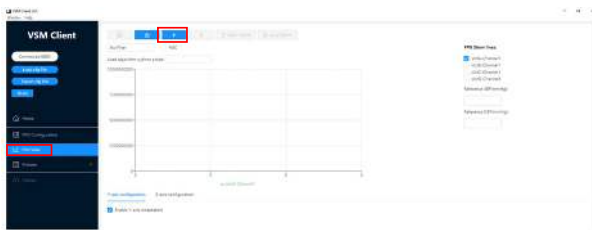

Figure 36. Plot View Interface
1. After connecting the device and loading the configuration file, click **Plot View** to view the **Plot View** interface and click the run button (see Figure 36).